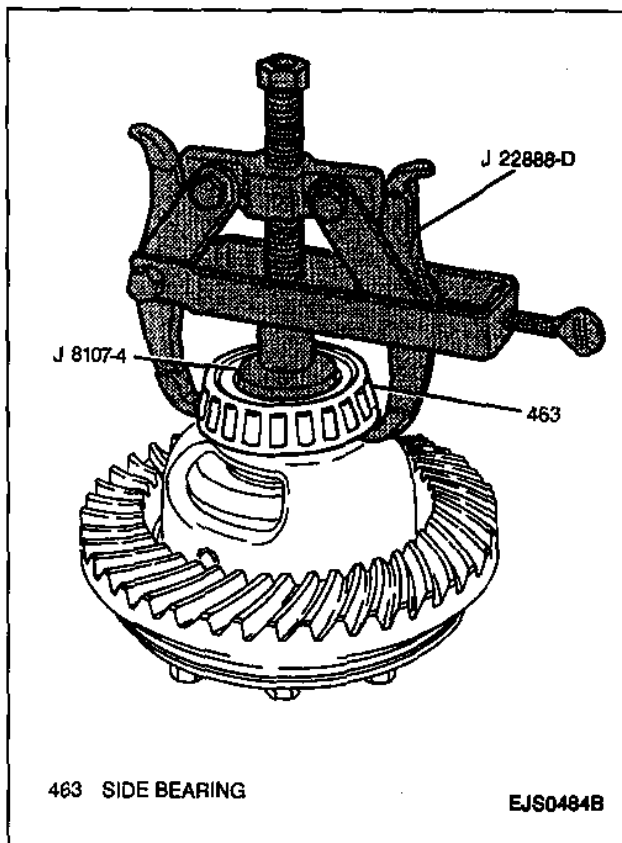

Figure 48—Removing Side Bearings
17. Side bearings from differential case using a J 22888-D with a J 8107-4 (Figure 48).